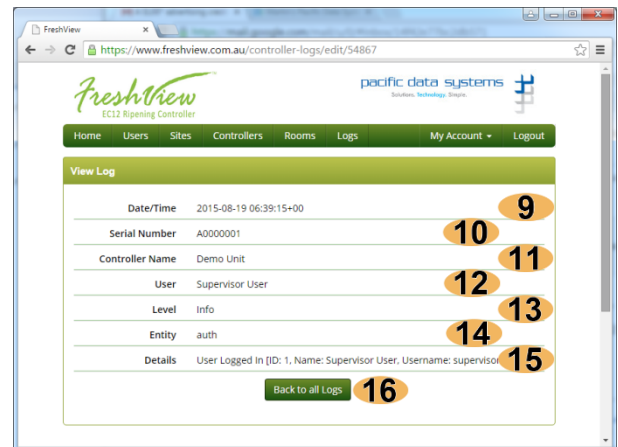

Figure 76: View log message web page.
- 8 **View Log Message:** View an individual log message, see *Figure 76: View log message web page*.